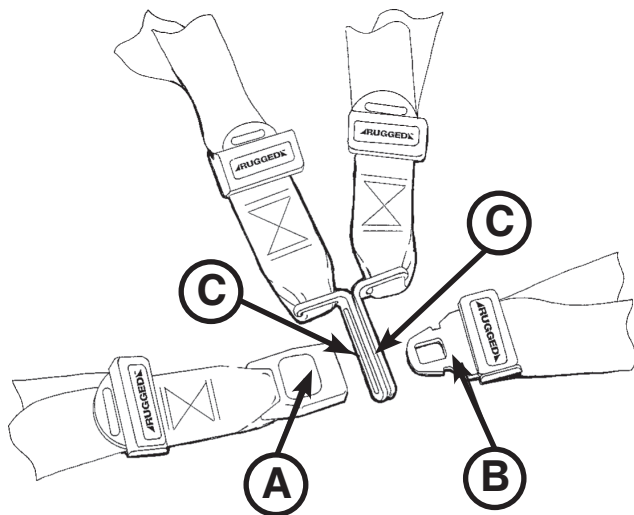

Figure 64a: Buckling the Safety Restraints
- **To open the restraint**, press the red button (A) on the front of the buckle “receiver”. This releases the buckle latch plate (B) which can then be pulled out of the receiver (Figure 64a).
- **To close the restraint**, push the latch plate into the receiver until a “click” is heard. When fastening the chest restraint ensure that the latch plate passes through both links (C) on the shoulder strap (Figure 64a).